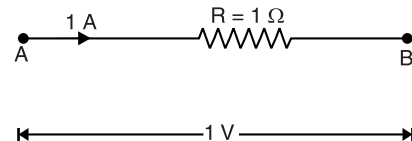

Fig. 1.10
*A wire is said to have a resistance of **1 ohm** if a p.d. of 1 volt across its ends causes 1 ampere to flow through it (See Fig. 1.10).*
A little reflection shows that second definition leads to the first definition. Thus 1 A current flowing for 1 second means that total charge flowing is $Q = I \times t = 1 \times 1 = 1$ coulomb. Now the charge flowing between A and B (See Fig. 1.10) is 1 coulomb and energy released is 1 joule (or 0.24 calorie). Obviously, by definition, p.d. between A and B should be 1 volt.